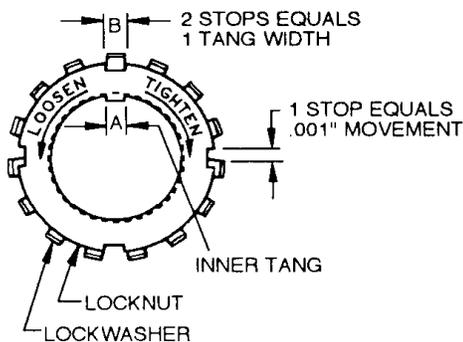

Figure 3 - Bearing Locknut Adjustment
Overtightening the locknut can cause bearing failure or a broken lockwasher tang (see “A” on Figure 3). A loose locknut will allow the shaft to shift, causing excessive bearing wear, and possible damage to the pump magnet.
- Back off the nut the width of one lockwasher tang “B” or two stops (see Figure 3). Secure the locknut by bending the closest aligned lockwasher tang into the locknut slot. Ensure that the shaft turns freely when rotated by hand.
- Press the grease seal (104) into the bearing cover with the flat side inward, so that the lips of the seal will face towards the housing when the bearing cover is installed.
- Install a new bearing cover o-ring (26) and the bearing cover (27A) to the housing. Install and tighten the two bearing cover capscrews (28) torquing to 15 lbs ft (20 Nm).